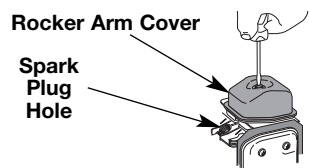

Fig. 35
- Clean dirt from around the rocker arm cover. Remove the screw holding the rocker arm cover with a large flat blade screwdriver or Torx T-25 bit (Fig. 35). Remove the rocker arm cover and gasket.